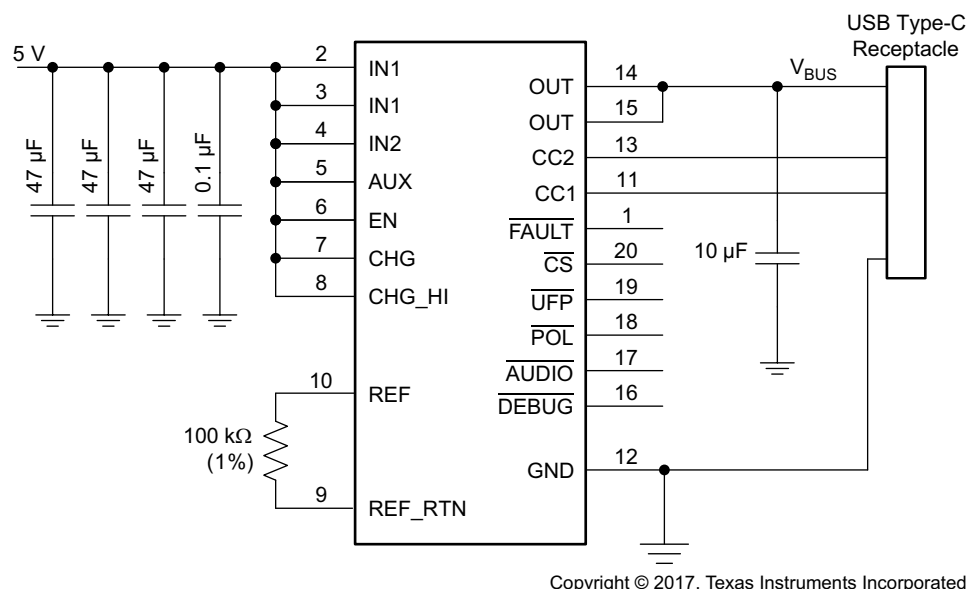

Figure 19. Type-C DFP Port Implementation Without BC 1.2 Support
Figure 19 shows a minimal Type-C DFP implementation capable of supporting 5-V and 3-A charging.
The TPS25810A-Q1 device supports up to three different input voltages, based on the application. In the simplest implementation, all input pins are tied to a single voltage source set to 5 V, as shown in Figure 19. However, it is recommended to set a slightly higher (100 mV to 200 mV) input voltage, when possible, to compensate for IR loss from the source to the Type-C connector.
- Depending on the maximum current-level advertisement supported by the Type-C port in the system, set the CHG and CHG_HI levels accordingly. Advertisement of 3 A is shown in Figure 19.